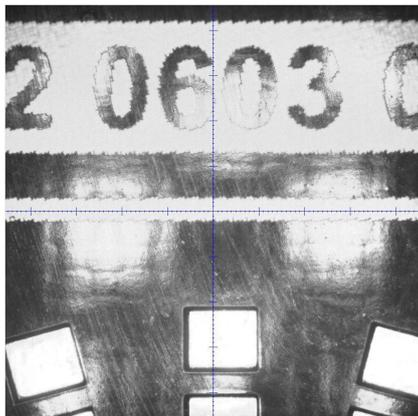

Fig.2
- ⤵ Click "Position Align" and into below interface(See fig.2),then adjust the position of